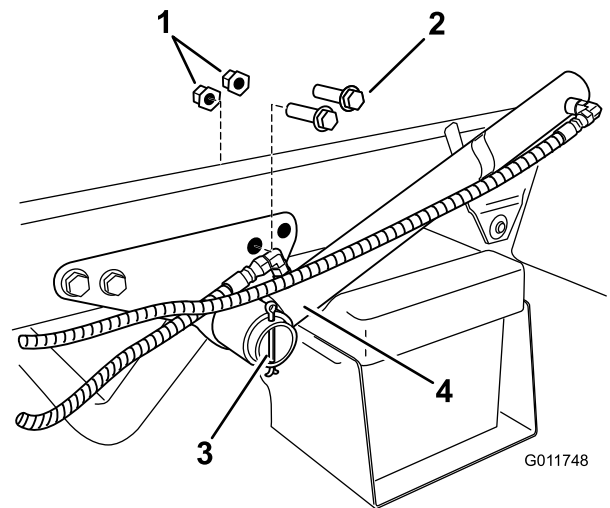

Figure 16
1. Locate and remove the two rear bolts and flange nuts on the lift cylinder bracket (Figure 16). Retain the fasteners for later use.